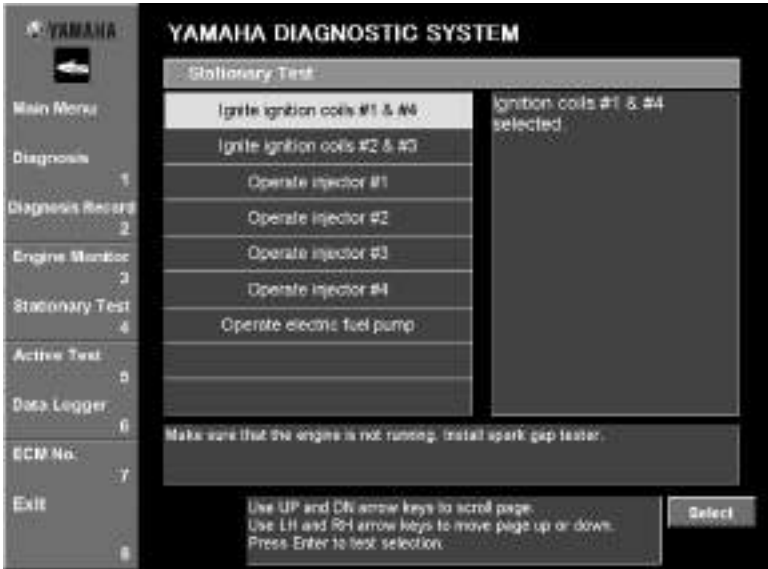

Fig. 46
9. To perform the test again to the same cylinder, click the **Execute** button or press the Enter key on your keyboard. To perform the test on a different cylinder, click the **Return [ESC]** button or press the Esc key on your keyboard to return to main menu where a different test can be selected. (Fig. 46)